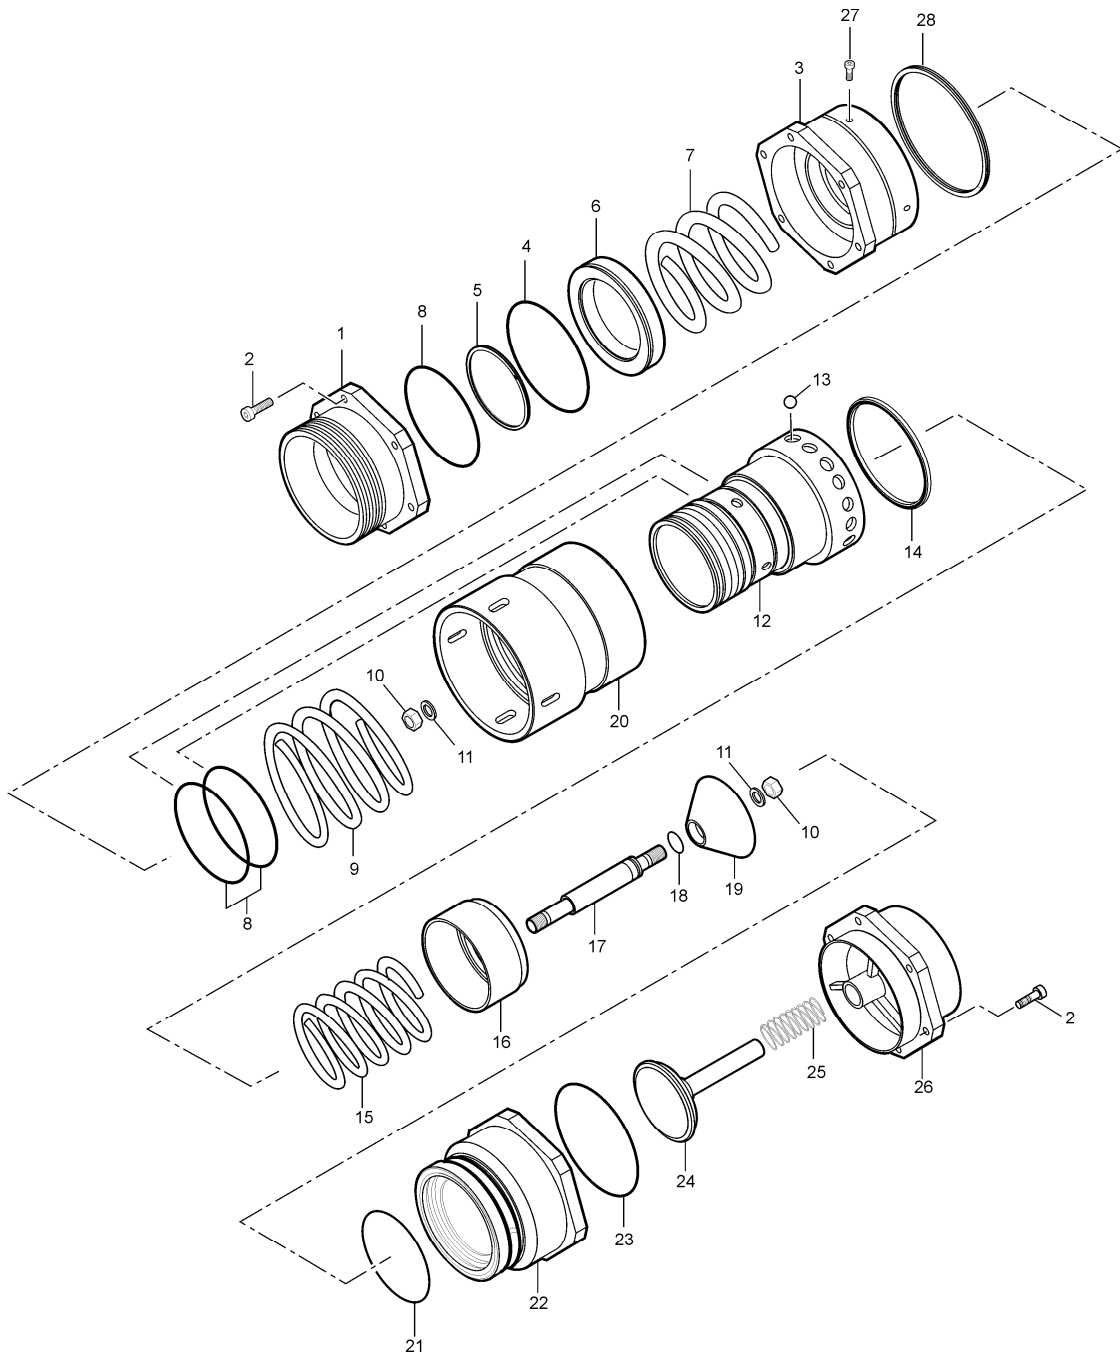

Figure 1
- 7.6 Place a lightly lubricated O-ring (1-8) in each of the designated grooves on the Female Body (1-12) [Refer to Figure 1].